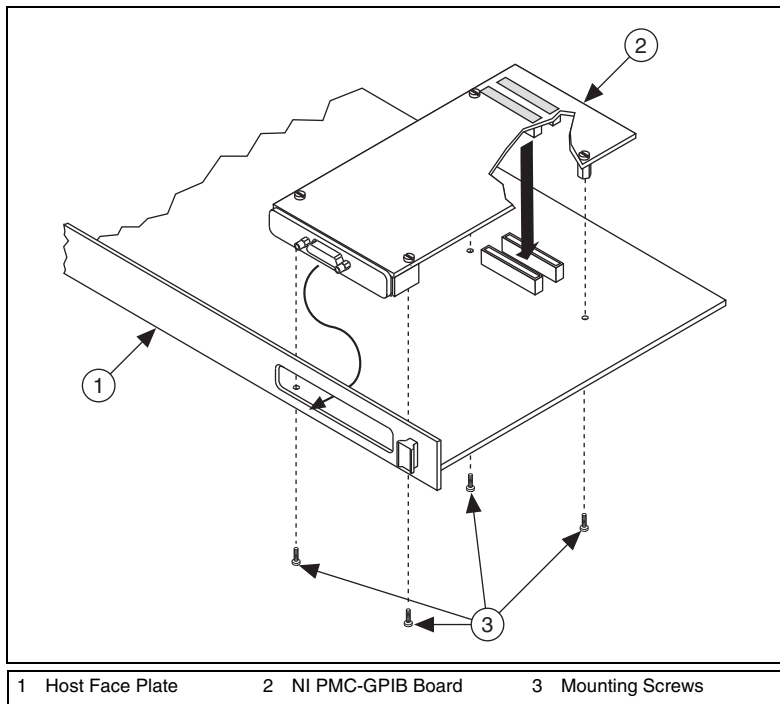

Figure 3. Installing the NI PMC-GPIB
7. Insert the NI PMC-GPIB into the slot as shown in Figure 3. It might be a tight fit, but do *not* force the board into place.